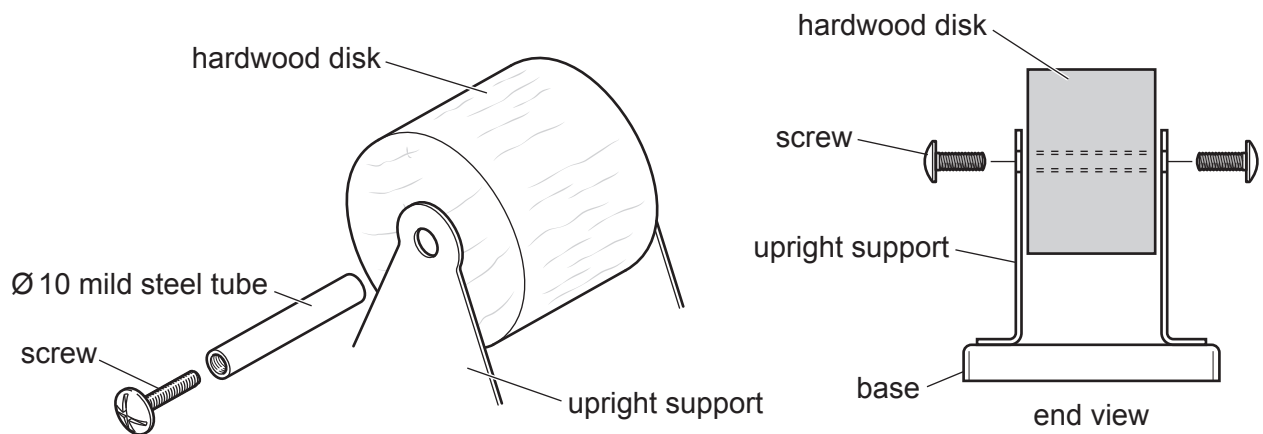

Fig. 12.5
- (d) Fig. 12.5 shows details of the hardwood disk fastened between the upright supports. A screw thread is cut on the inside of the Ø10 mild steel tube so that screws can be inserted on both sides of the disk.